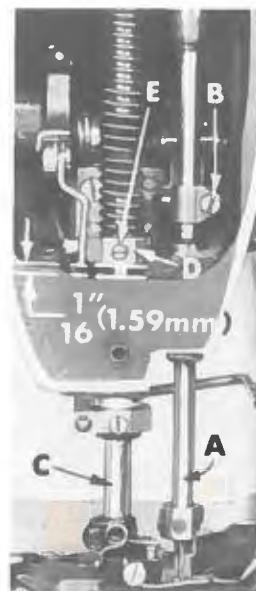

Fig. 4
Align the needle bar (A, Fig. 4) and set to height, using the proper test pins and test plate of the right gauge. See chart below:
If test plate and test pins are not available, insert a new set of needles (Type and Size as required) and align the needle bar so that the needles correspond with the vertical face of the needle guard. To turn needle bar, loosen needle bar clamp screw (B, Fig. 4) and turn bar as required. Tighten clamp screw.
The height of the needle bar should be correct if proper test plate and test pins were used to "align" needle bar. If not, the height of the needle is correct when the top of its eye is $3/64$ inch (1.19 mm) below the underside of the looper, with the looper point flush with the left side of the left needle. If adjustment is necessary, loosen screw (B, Fig. 4) and move needle bar (A) up or down as required and retighten screw. Care should be taken not to disturb the alignment of the needle bar when moving it up or down.
The height of the presser bar (C, Fig. 4) is set correctly if it is possible to remove the presser foot when the foot lifter lever (B, Fig. 16) is fully depressed. Also there should be approximately 1/16 inch (1.59 mm) clearance between lower surface of the presser bar connection and guide (D, Fig. 4) and the bottom surface of head opening in the bed when the foot lifter lever is released and the presser foot resting on the throat plate, with the feed dog down below the throat plate.
If adjustment is needed, turn handwheel in operating direction until the needle bar is in the low position. Loosen screw (E, Fig. 4) then, while holding presser foot down on the throat plate surface, pry up presser bar connection and guide with a screwdriver to obtain the 1/16 inch (1.59 mm) setting and retighten screw. Check setting by turning handwheel so that needle bar is in its high position and see if presser foot can be removed as mentioned in previous paragraph.